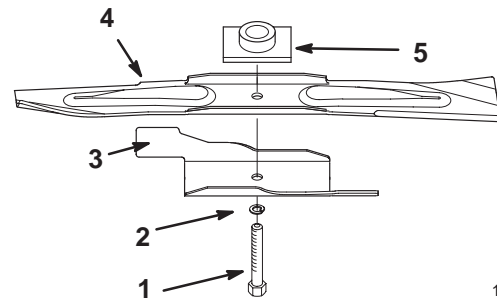

Figure 20
2. Remove the blade bolt, the lock washer, the accelerator, and the blade (Fig. 20).
1. Install a sharp, balanced Toro blade, an accelerator, a lock washer, and the blade bolt (Fig. 20).